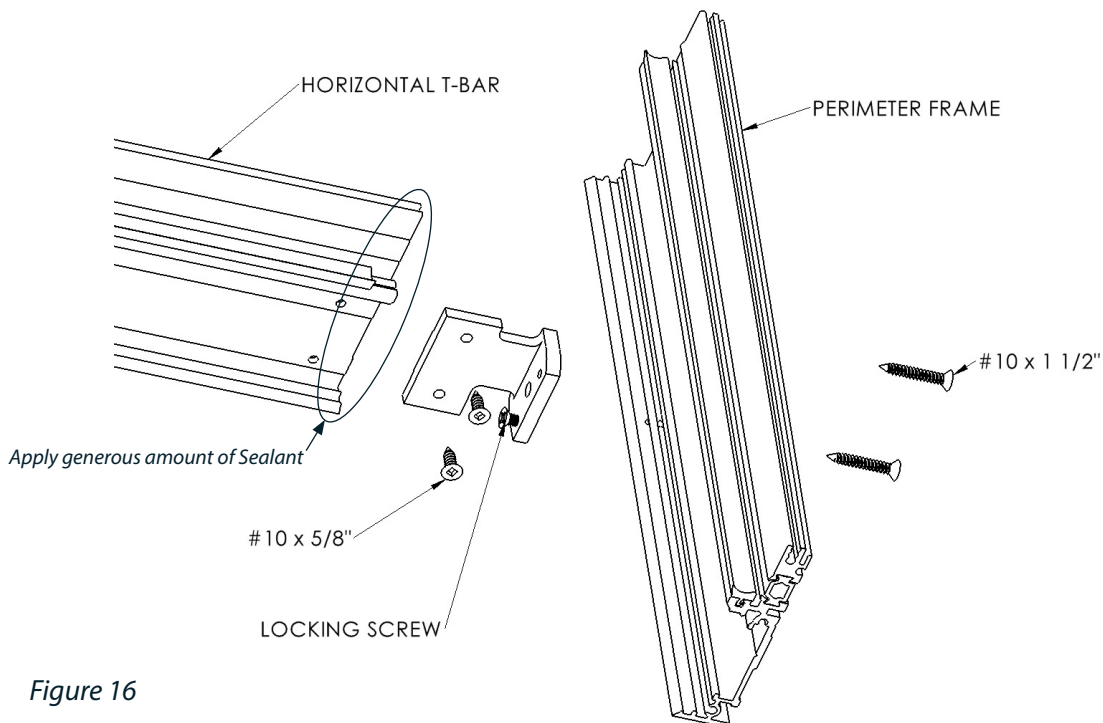

Figure 16
8. Insert the brackets for the horizontal T-bars into the jambs, verify that it is in the correct location. Once verified please apply sealant to the back side of bracket and lock into place using the locking screw. (See Figure 16).